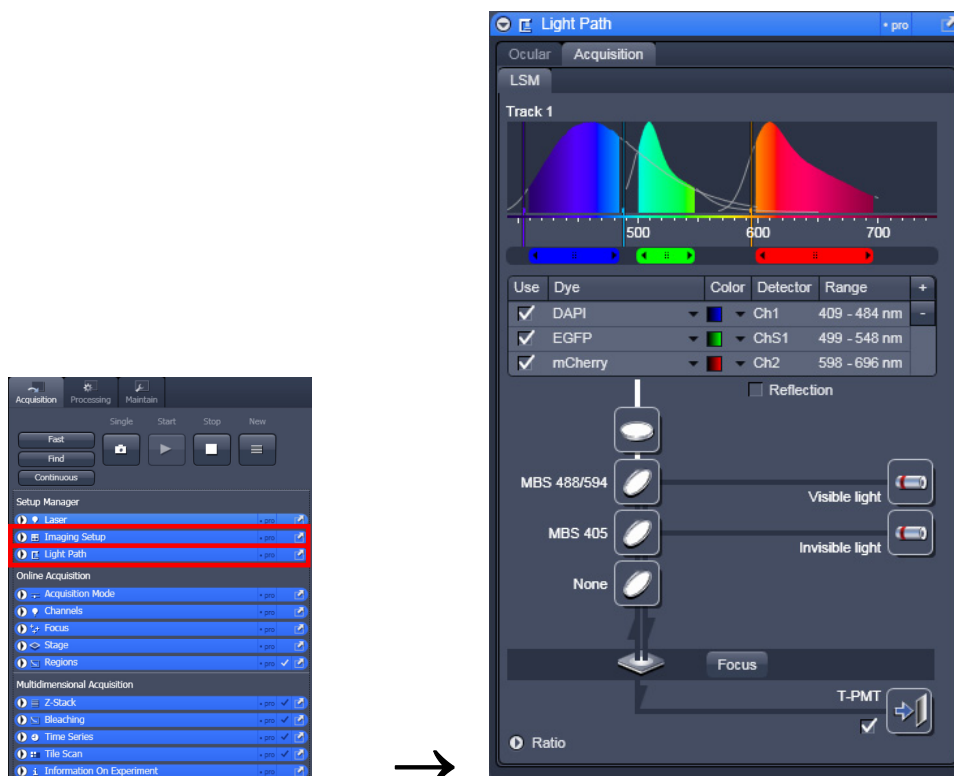

Fig. 14 Light Path tool for a single track (LSM)
The open **Light Path** is shown in Fig. 14.
- Click on the **LSM** tab (Fig. 14).